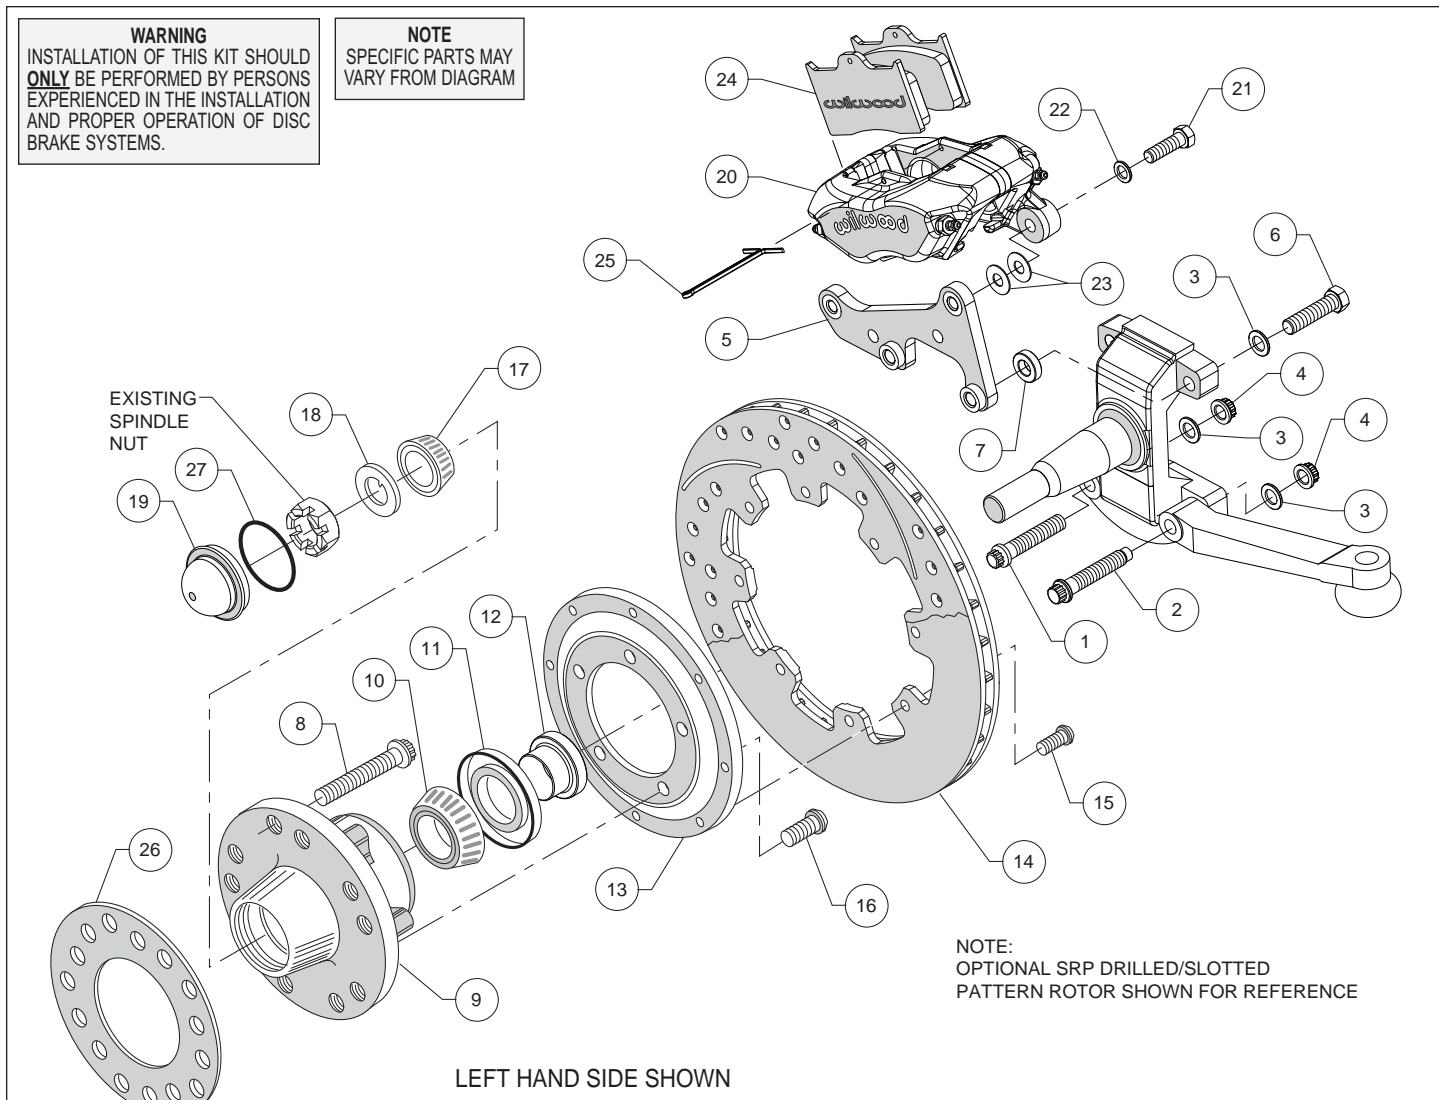
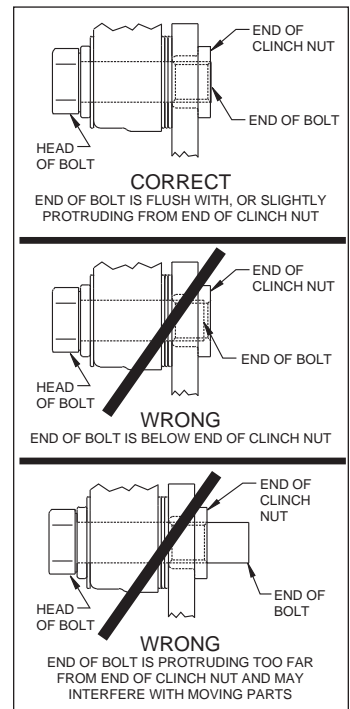

Figure 1. Typical Installation Configuration
Figure 3. Clinch Nut Engagement Diagram
**Assembly Instructions** (numbers in parenthesis refer to the parts list and Figure 1 on the preceding pages): **CAUTION:** All mounting bolts must fully engage clinch nuts. Be sure to check that all bolts are either flush or protruding through flanged side of clinch nut after shimming, Figure 3.
- One at a time, remove the two lower OEM bolts that secure the steering arm from the back side of the spindle. Replace with new bolt (1), in the forward most hole, and bolt (2) in the rear hole, Photo 1. **NOTE:** The longer bolt with the end of the threads turned down is the steering stop. The new bolts are installed in the opposite direction as the original bolts, from the outside, Photo 2. Secure bolts using washer (3) and nut (4) as shown in Figure 1. Torque nuts to 47 ft-lb.
- Orient the caliper mount bracket (5) as shown in Figure 1 and Photo 2, and install using bolts (6) and washers (3). Place spacers (7) between spindle and bracket. Ensure that the flanged heads of the clinch nuts in the bracket are facing outboard, Photo 2. Temporarily tighten the mounting bolts. **NOTE:** The bracket must fit squarely against the mount bosses on the upright. Inspect for interference from casting irregularities, machining ridges, burrs, etc. Remove bolts one at a time, apply red *Loctite*® 271 to the threads and torque to 60 ft-lb.
- Install wheel studs (8) into the hub (9), Photo 3. Torque to 77 ft-lb.
- Pack the large inner bearing cone (10) with high temperature disc brake bearing grease (available from your local auto parts store) and install into the backside of the hub (9), Photo 4.
- Install the grease seal (11) by pressing into the backside of the hub (9), flush with the end of the hub, Photo 4.
- Orient the rotor (14) and the rotor adapter (13) as shown in Figure 1 and Photo 5. Attach the rotor to the adapter using bolts (15). Using an alternating sequence, apply red *Loctite*® 271 to the threads, and torque to 25 ft-lb.
- Mount the adapter/rotor assembly (13/14) to the hub (9) using bolts (16), as shown in Figure 1 and Photo 6. Using an alternating sequence, apply red *Loctite*® 271 to the threads, and torque to 45 ft-lb.
- Slide the bearing spacer (12) onto the spindle. Ensure the larger diameter faces inward, Photo 7.
- Pack the small outer bearing cone (17) with high temperature disc brake bearing grease and install into hub (9). Slide the hub/rotor assembly onto the spindle. Secure using spindle washer (18) and OEM nut, Photo 8. **NOTE:** *The O.D. of the existing OEM spindle washer may be larger than the I.D. of the dust cap not allowing it to seat against the hub face. Therefore, use the spindle washer (18) supplied with the kit instead of the OEM washer.* Adjust bearings by tightening the wheel bearing nut to 60 in-lbs. while turning the hub/rotor assembly. Back off the adjusting nut one slot and install a new cotter pin (not supplied). **The resulting adjustment should be zero (no pre-load to 0.003 inch end play).**
- Install the o-ring (27) onto the dust cap (19). Press the dust cap into the hub (9), Photo 9.
- NOTE:** *Please reference the caution statement at the beginning of the assembly instructions.* Mount the caliper (20) onto the caliper mounting bracket (5) using bolts (21) and washers (22), as shown in Figure 1. Initially place two .035" thick shims (23) on each bolt between the caliper and the bracket, Photo 10. Temporarily tighten the mounting bolts and view the rotor (14) through the top opening of the caliper. The rotor should be centered in the caliper, Photo 11. If not, adjust by adding or subtracting shims between the bracket and the caliper. Always use the same amount of shims on each of the two mounting bolts. **NOTE:** *The end of each bolt must be flush with or slightly protruding from the head of the clinch nut, as shown in Figure 3.* If necessary place spare shims between washer (22) and caliper mounting ear to achieve the proper clinch nut engagement. Once the caliper alignment and clinch nut engagement are correct, remove the bolts one at a time, apply red *Loctite*® 271 to bolt threads, and torque to 40 ft-lb.
- Install the disc brake pads (24) into the caliper, with the friction material facing the rotor (14), and secure in place using cotter pin (25), Photo 12.
- Install wheel spacer (26) as shown in Figure 1 and Photo 13. Temporarily install wheel and torque lug nuts to manufacturer's specification. Ensure that the wheel rotates freely without any interference. **NOTE:** *Wheel spacer (26) MUST be used if any wheel contact surfaces overhang the outside diameter of the hub face. See warning on page 3.*